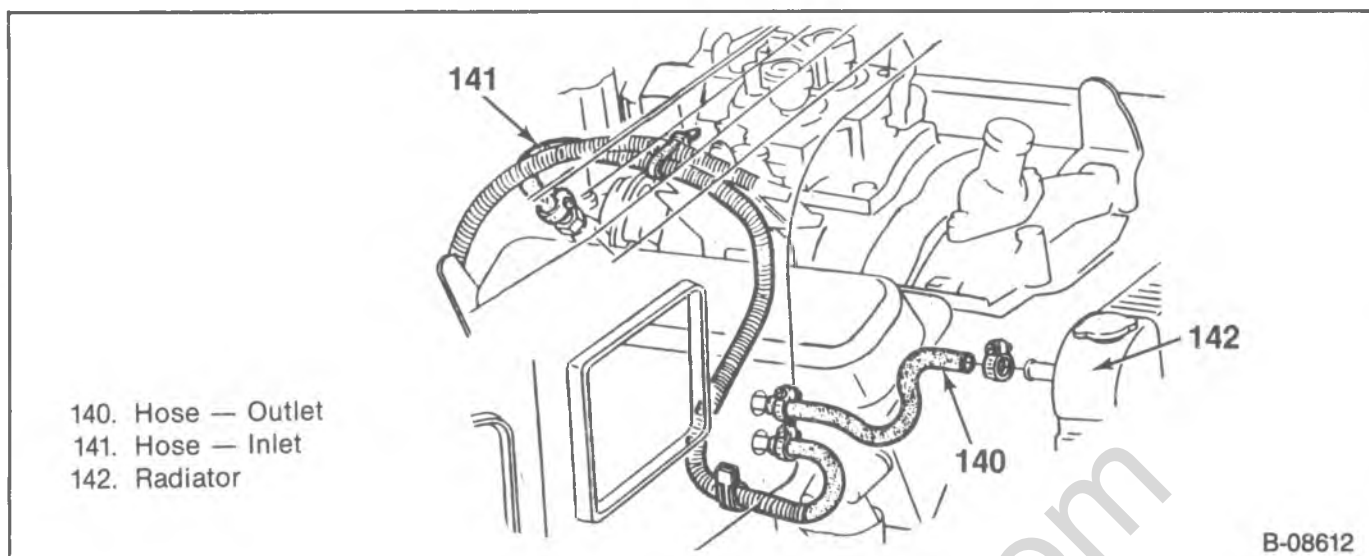

Figure 20—Heater Hose Routing—4.3L, 5.0L and 7.4L Engines
Heater hoses are routed from the thermostat housing or inlet manifold and water pump (radiator on some automatic transmission vehicles) to the core inlet and outlet pipes. Hoses are attached at each end with screw-type clamps. (Refer to figures 20, 21 and 22).
3. Heater core hoses (140 and 141) (figures 20, 21 and 22).